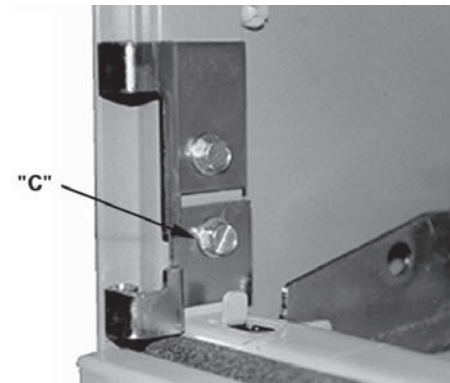

Figure 11
1. Remove the existing hinge (if present) in the 6 in space. See Figure 11.